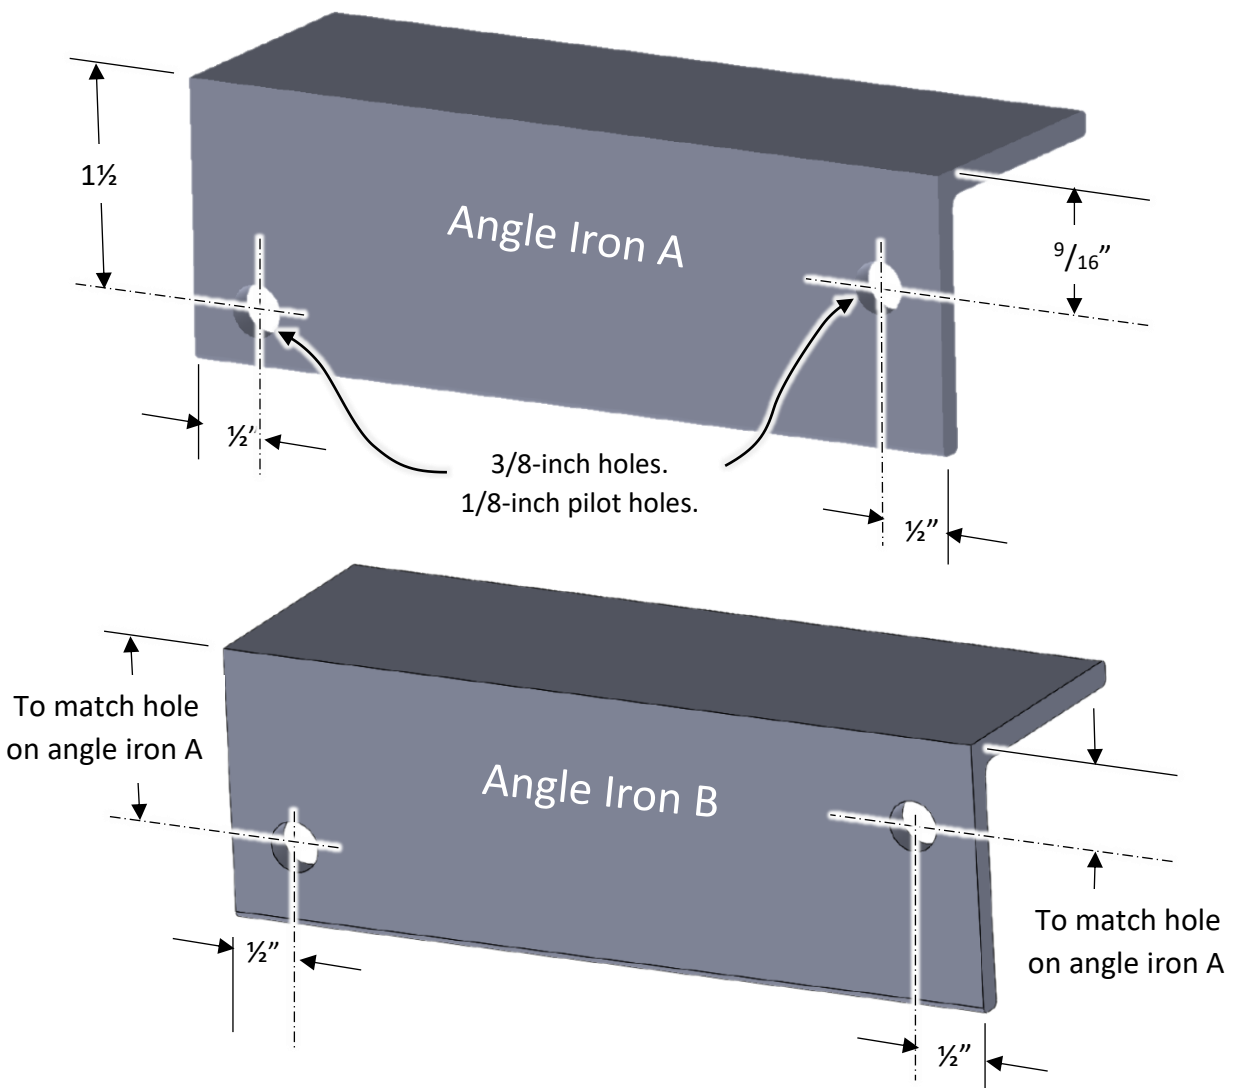

Figure 5. Details for marking and drilling holes in Angle Iron A and Angle Iron B
Your team has been provided two 6-inch pieces of 2" x 2" x $\frac{3}{16}$ " angle iron. It will be helpful to identify one piece as Angle Iron A and the other as Angle Iron B. Holes need to be drilled in these pieces so they can be fastened on the side of the skid steer bucket. Figure 5 illustrates the placement of these holes.
- a. Mark the holes on Angle Iron A as illustrated in Figure 5. Mark the holes in Angle Iron B so they line up with the holes in Angle Iron A when welded together.